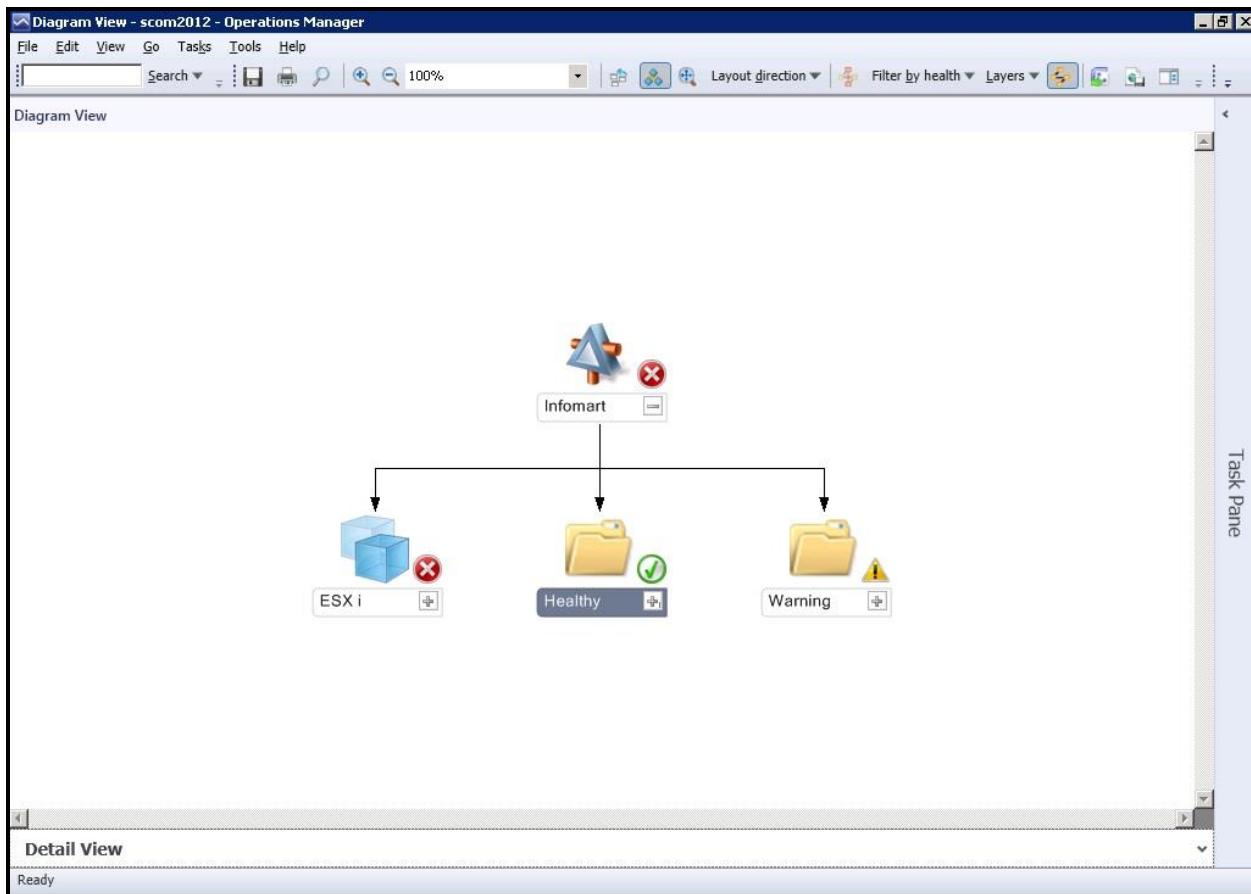
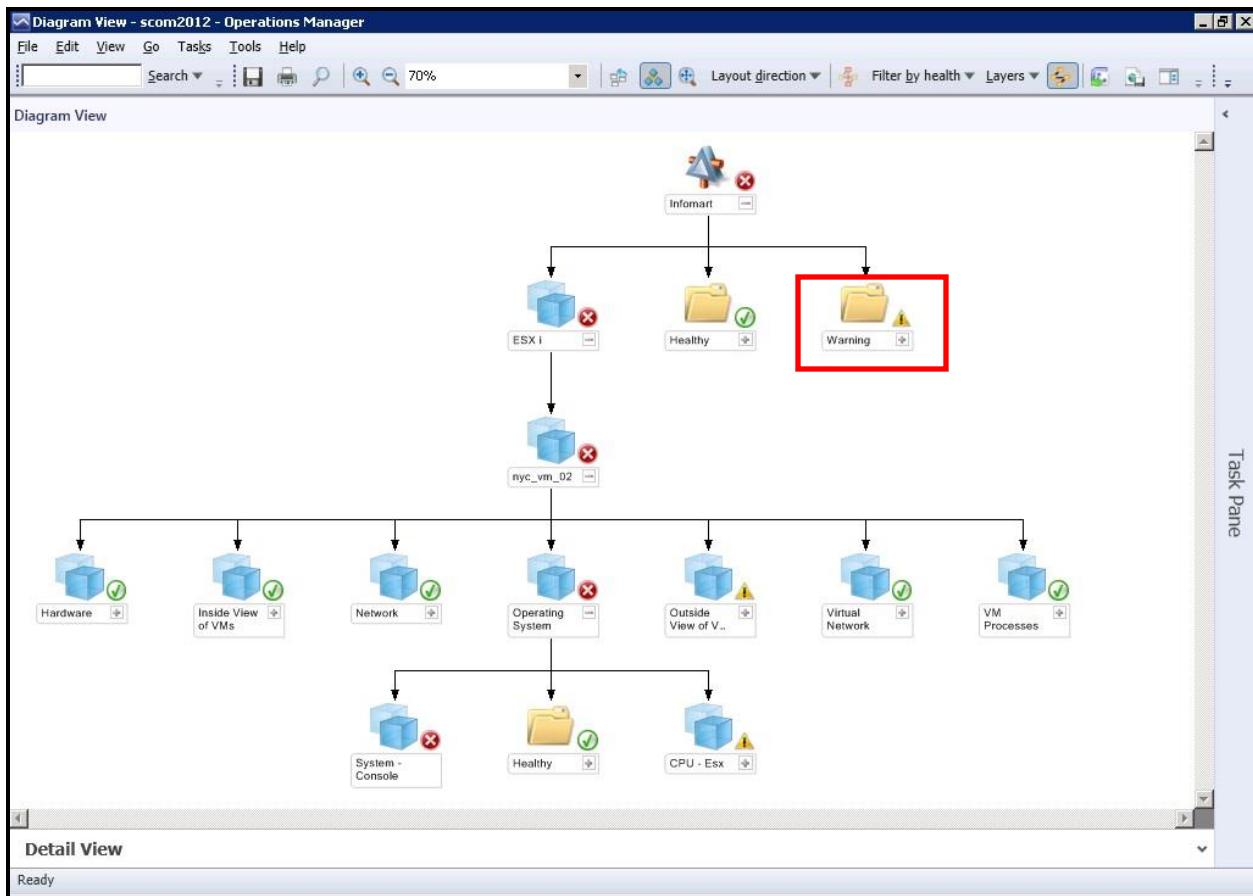

Figure 3.39; The abridged distributed application topology indicating the component in the Critical state
Figure 3.40: Drilling down from the ESXi component to know which eG test reported the Critical problem
15. Figure 3.39 will then appear, displaying an "abridged" topology of the *Infomart* application; this topology indicates that while a single component is in the **Critical** state, some components are in the **Healthy** state and some others in the **Warning** state. From Figure 3.39, we can easily infer that the **ESXi** component is in the **Critical** state and is hence responsible for the dip in the performance of the *Infomart* application. Could this **Critical** issue have caused some components to be in the **Warning** state? Only detailed investigation can confirm that. To begin with however, let us focus on the **Critical** issue with the **ESXi** component.
16. From the topology map of Figure 3.39, you can drill down further to discover where in the **ESXi** component's architecture the **Critical** issue occurred and which eG test caused it. To drill down, click on the **+** button adjacent to **ESXi** in Figure 3.39. This will reveal the name of the problematic **ESXi** component, which is *nyc_vm_02* in the case of our example (see Figure 3.40). Clicking on the **+** button next to *nyc_vm_02* will lead you to the layer in which the problem occurred – this is the **Operating System** layer in our example. By drilling one level down, will you can determine the exact test that reported the problem – this is the **System – Console** test in the case of our example. It is now apparent that the **Critical** anomaly occurred in the service **console** of the *nyc_vm_02* component. From Figure 3.40, it is also clear that the **Critical** problem with the **System-Console** test has rippled and affected the performance of the **CPU-Esx** test, forcing SCOM to signal the problem with that test as a **Warning**. To know the exact measures that captured these abnormalities, you have to use SCOM's Health Explorer. Refer to Section 3.6 of this document to know how to use the Health Explorer.